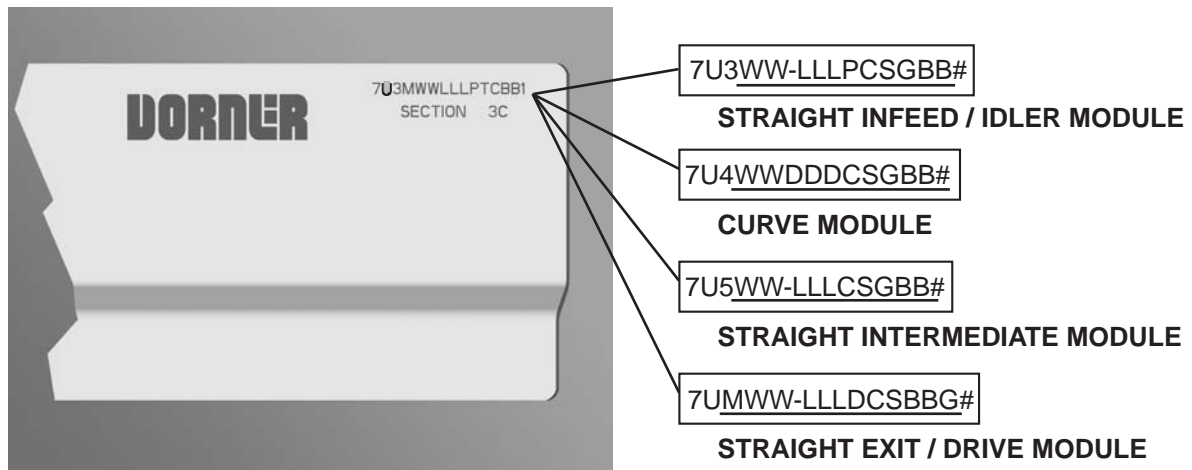

Figure 78
Refer to your serial and model number plate (**Figure 78**). From the model number, determine conveyor width (WW), length (LLL), pulley type (P), stand location, cleaning options (C), stand holes (S), guide profile (G), belt material (BB), degree of turn (DDD), drive/pulley type (D) and module serialized sequence (#).